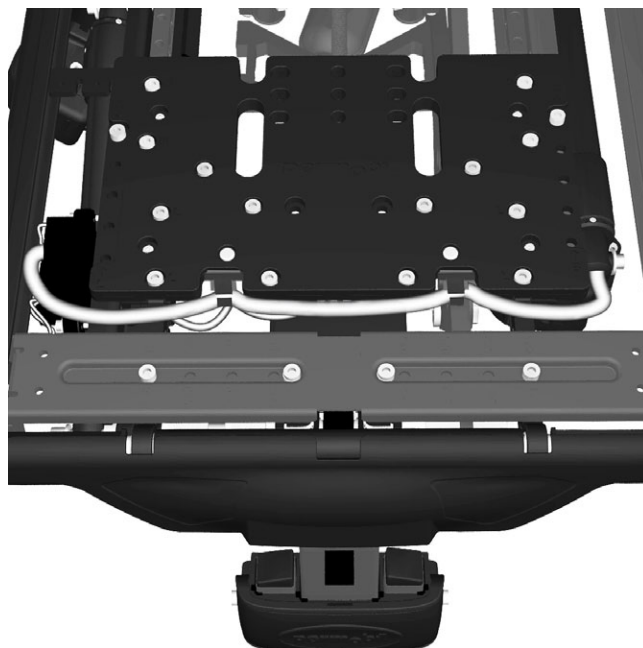

Figure 209. Backrest actuator cabling.
4. Remove the actuator contact from the contact block on the right side of the seat. See fig. 209. Remove the contact by pulling it straight out. Loosen the actuator cabling from its fixing points. Remember how the cabling is positioned; this helps when you come to re-attach it.
Connect the actuator contact to the contact block on the right side of the seat. See fig. 209. Fit the contact by pushing it straight in at any point.